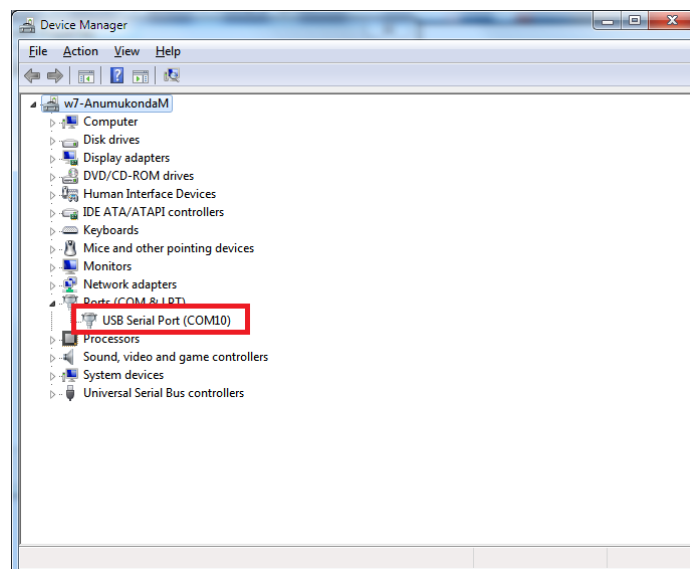

Figure 1-4 • USB to UART Bridge Drivers
3. Connect the other end of the USB cable to the host PC. Make sure that the USB to UART bridge drivers are automatically detected (can be verified in the Device Manager), as shown in Figure 1-4.